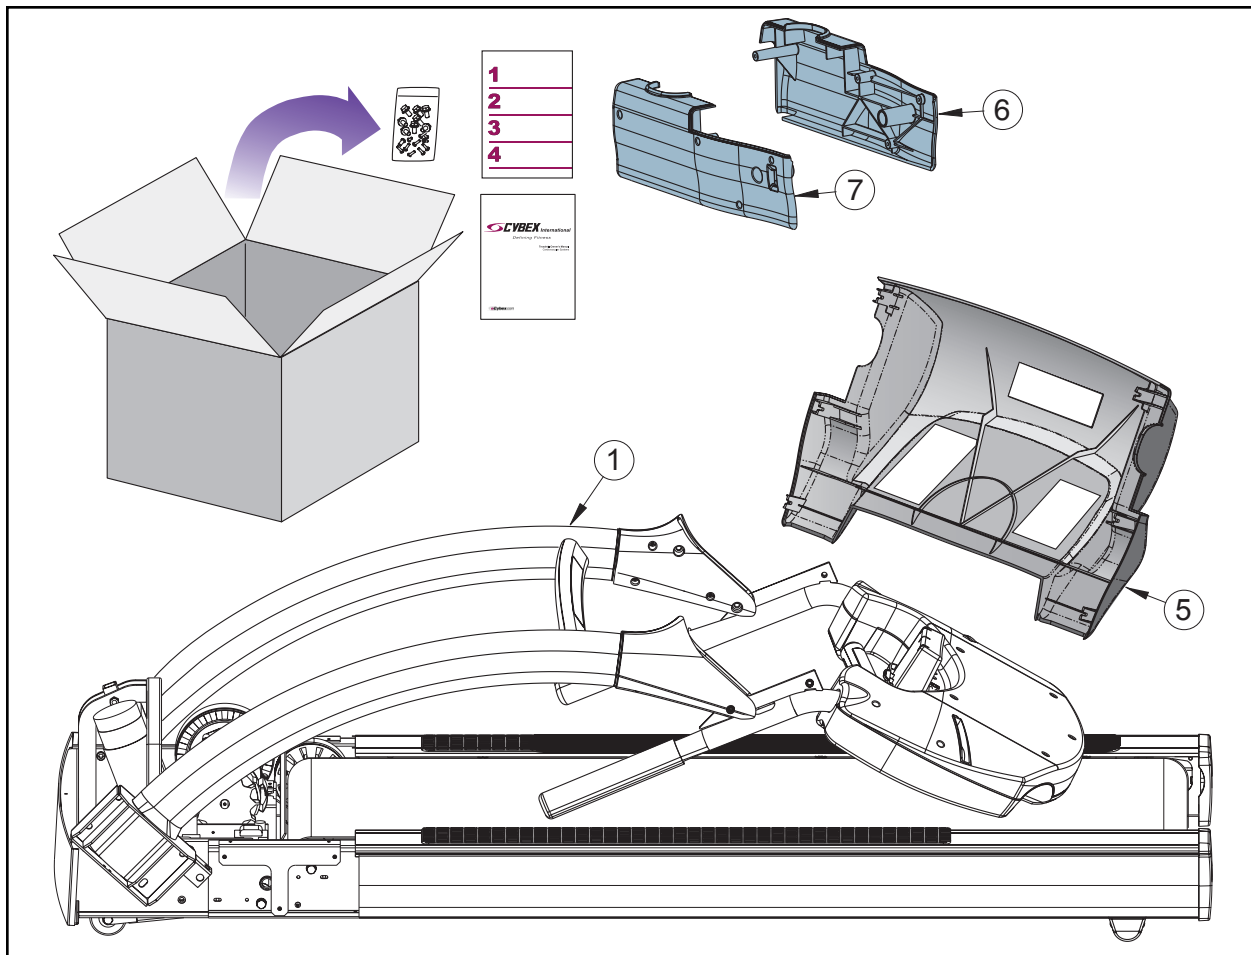

Figure 1
- B.** Check to be sure that the following items are present. Check off () each item as you find it. See Figure 1. If any of the parts are missing contact Cybox Customer Service.